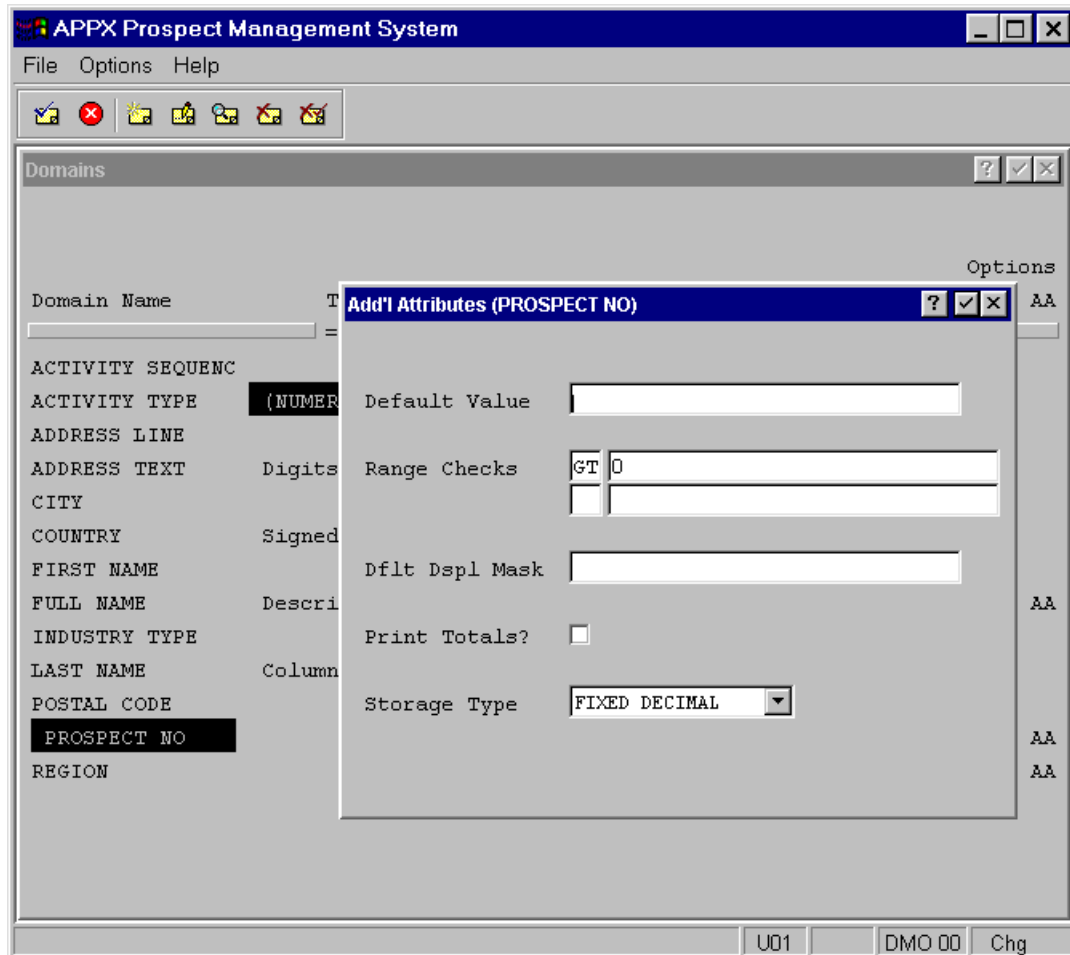

Figure E1.5 – Additional Attributes for the PROSPECT NO Domain
Figure E1.5 shows that the **PRODUCT NO** domain has a range specified and that only values greater than (GT) zero are allowed.